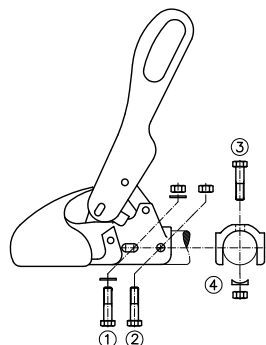

Fig. 3: Connection
The WS 3000-H/L/LB are specially designed for inertia braking systems and are fitted with crossways screw connection (1)+(3) and **40 mm** hole spacing (Fig. 3). The fastening material is not included with the product.
2.2 If the WS 3000 coupling is being used as replacement for another type of coupling, attention must be paid in respect of the overrun device that the shock absorbers are correctly fitted and that any spacers in the drawbar are correctly reinstalled. Please use the provided \varnothing 12x34 mm or \varnothing 12x49 mm bolts as to assist with this depending on the size of the drawbar diameter. Use bolts to push through when removing the fastening screw (2) or (3) (Fig. 3) depending on the type of shock absorber fastening, and insert in the drawbar for centering the shock absorber when connecting/dismantling the ball coupling. Remove the bolt again when inserting the new fastening screw.